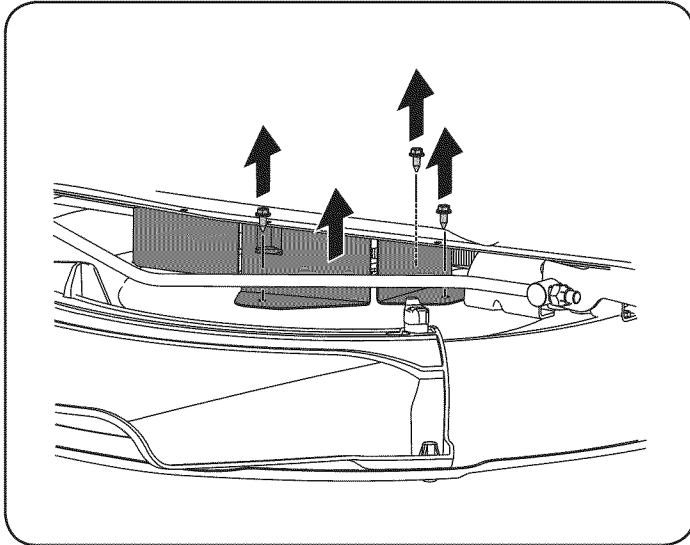

Figure 35
4. Remove the deck belt cover by removing the three hex bolts that secure it. See Fig. 35.